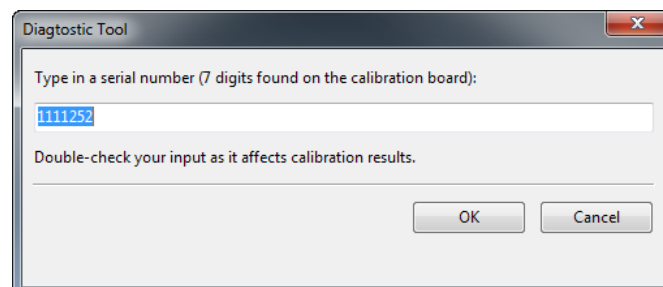
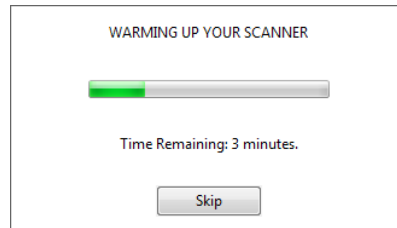

Figure 137: Entering serial number of calibration board.
Figure 138: Warming up the scanner.
6. Click *Start calibration*. A dialog box will open (see Figure 137); enter the serial number of your calibration rig (it appears on the board). If the scanner temperature is outside the optimal range—for example, you just connected the device to a power outlet—the tool will notify you of this condition (see Figure 138). We advise against clicking *Skip* and instead recommend waiting for the Artec Spider to reach its optimal temperature.